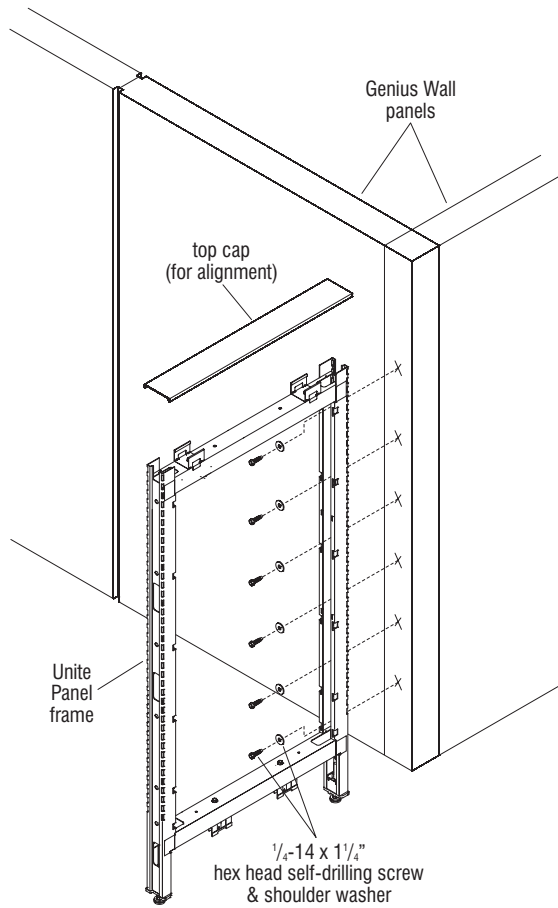

Figure 24 - Unite to Genius Wall Universal Installation
1. Position Unite Panel frame up to Genius Wall at the desired installation location. If installing to a corner (Figure 24), temporarily install a top cap to the top of the Unite Panel frame. Use the width of the installed top cap to align the panel location for flush mounting to corner locations (Figure 24).
2. Properly plumb and align the Unite panel frame to the mounting location, then using six  $\frac{1}{4}$ -14 x  $1\frac{1}{4}$ " hex head self-drilling screws & shoulder washers, run the self-drilling screws through the Unite panel mounting locations, and into the aluminum trim of the Genius Wall (Figure 24).